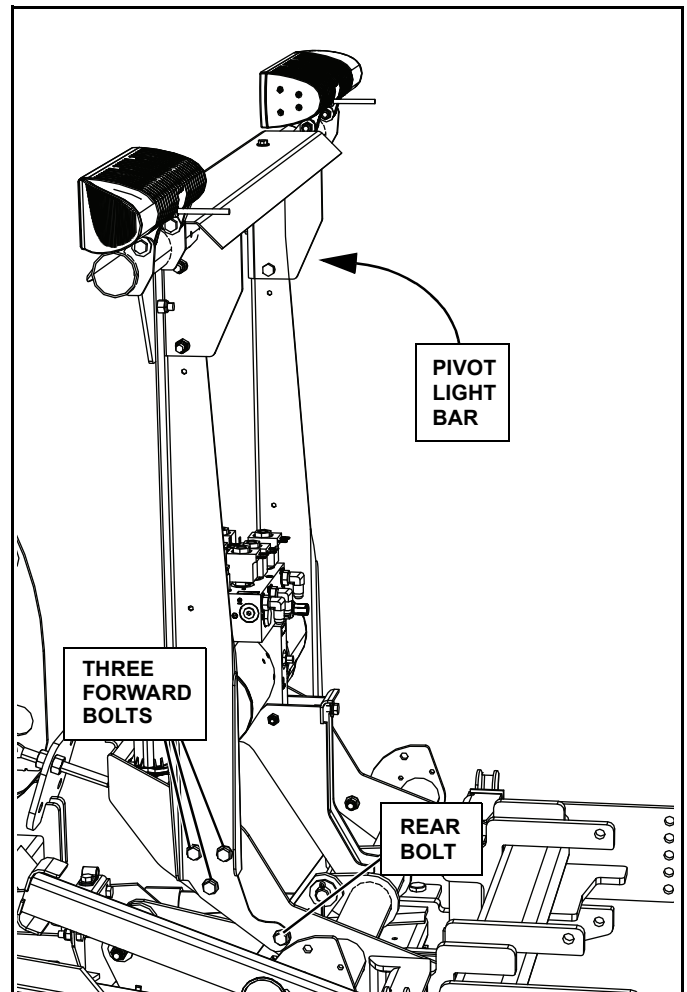

Figure 2-5
4. Unplug plow lamp harness from receiver. Remove 3 forward bolts from both passenger and driver side light bar uprights. Loosen rear bolt on both passenger and driver side light bar. Pivot light bar forward towards blade (See Figure 2-5).